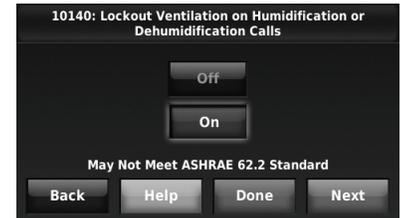

Fig. 262.
10. Select whether to lockout ventilation on humidification or dehumidification calls. This feature is used to help reach the user’s desired humidity level by not allowing the ventilation equipment to run during a call for humidification or dehumidification. The thermostat will indicate whether this meets or may not meet the ASHRAE 62.2 Standard or the Percent On Time setting. See Fig. 262.